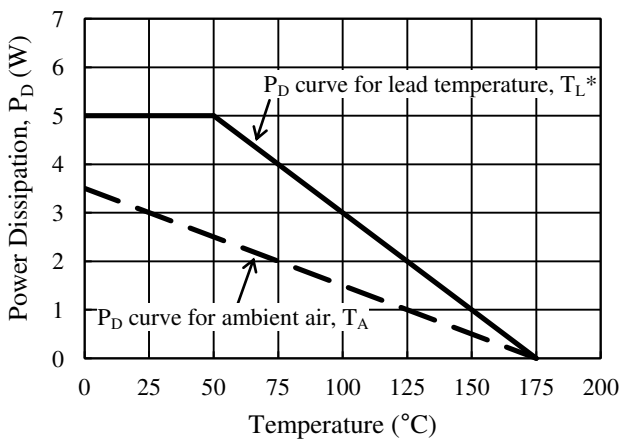

Figure 3-1 SZ10-N27 and SZ-10N40 Power Dissipation curves
(1) Refer to Figure 3-1 Power Dissipation Curves.